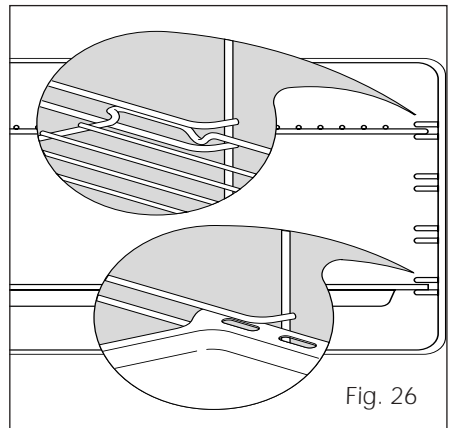

Fig. 26
- Slide the tray and rack into the runners (Fig. 26).